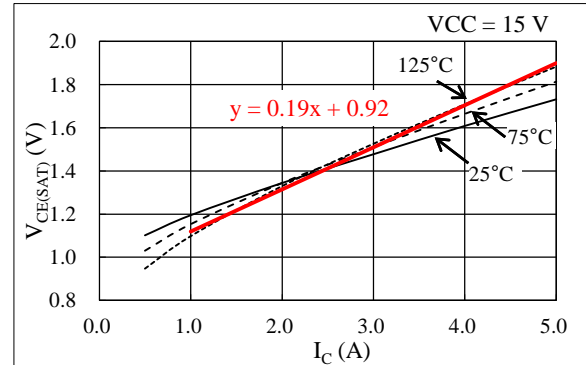

Figure 14-1. Linear Approximate Equation of  $V_{CE(SAT)}$  vs.  $I_C$  Curve
Steady-state loss in an IGBT can be computed by using the  $V_{CE(SAT)}$  vs.  $I_C$  curves, listed in Section 15.3.1. As expressed by the curves in Figure 14-1, linear approximations at a range the  $I_C$  is actually used are obtained by:  $V_{CE(SAT)} = \alpha \times I_C + \beta$ . The values gained by the above calculation are then applied as parameters in Equation (4), below. Hence, the equation to obtain the IGBT steady-state loss,  $P_{ON}$ , is: